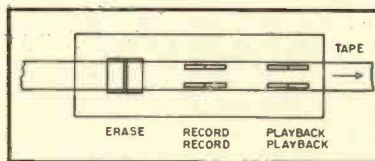

Fig. 6. Diagram of the arrangement of the Ampex stereophonic head assembly.
A more flexible control system is shown in Fig. 6. The selector switch has five positions—(1) both AM and FM channels feeding separate output circuits, with AM on output 1 and FM on output 2; (2) same as (1) except that AM is on output 2 and FM on output 1; (3) AM feeding both output circuits; (4) FM feeding both output circuits; and (5) stereophonic, with the dual volume control and the balancing control in the circuit. The only eventuality not provided for is the reversal of the stereophonic sources, which could become necessary in certain instances. This was not included because of the impracticality of locating a four-pole six-position switch of reasonable dimensions. However, it is probable that some standardization in channel usage will occur, so that the FM channel is always on the left and AM on the right, or vice versa. Since the normal orchestra arrangement places the high-frequency instruments
For Figure 6
- Same parts as for Fig. 6, except for the substitution of the following for the resistors listed:
Fig. 6. The addition of a switch provides greater flexibility in the operation of the converted tuner. With the switch at A, input 1 is connected to both outputs; at B, input 2 is connected to both outputs; at C, each input is connected to a separate output, without the volume and balancing controls in the circuit; at D, the inputs are connected through the controls for binaural programs.